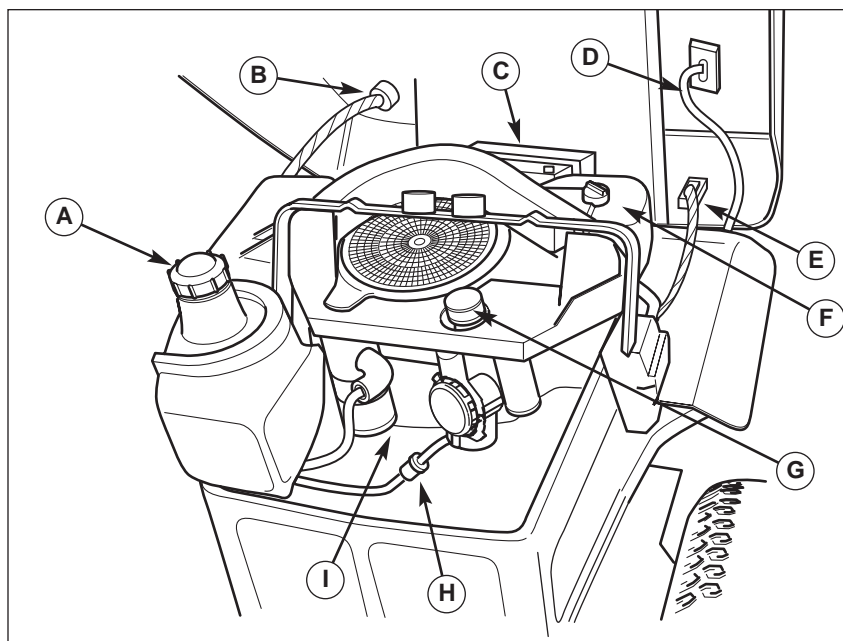

Figure 10. Engine Compartment
1. Remove the fuel cap (A, Figure 10).